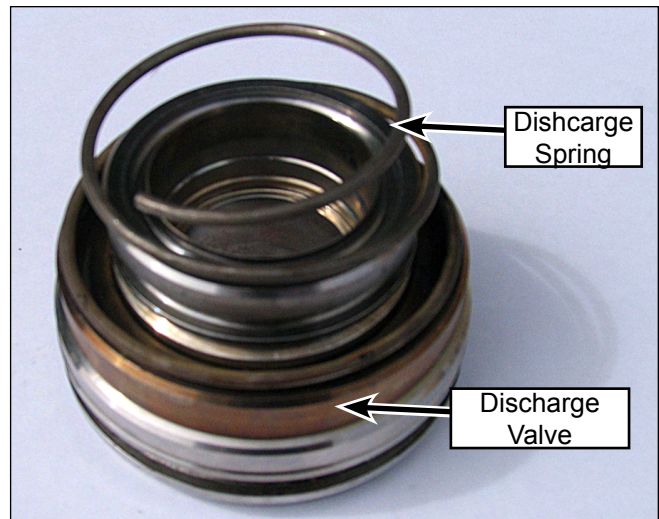

Figure 84: Install Discharge Valve and Spring.
1. Install the discharge valve onto the valve body. The shiny mating surface faces the holes on the valve body. Place the discharge spring into position on the valve (Figure 84).